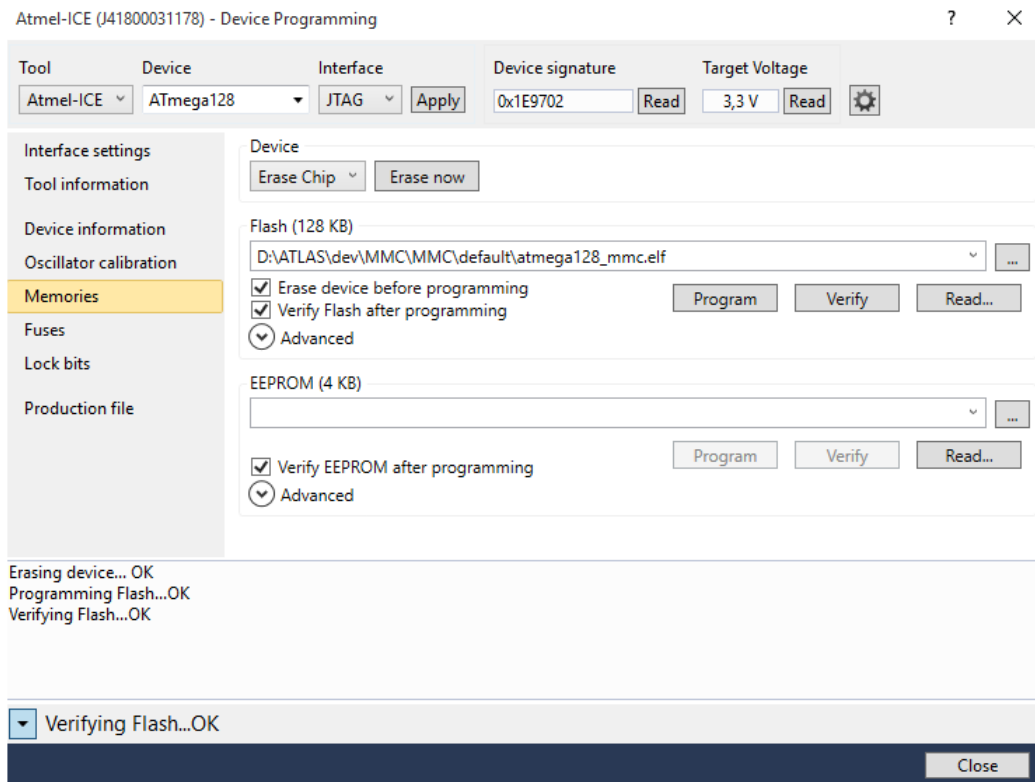

Figure 2.7: ATmega128 Programming
3. In the *Tools* menu, select *Device Programming*. In the *Memories* entry tab, select the ELF file to upload and click on *Program* (*Figure 2.7*). After the file name has been selected once, you can use the *Start Without Debugging* button  directly from the menu bar to flash the MCU.